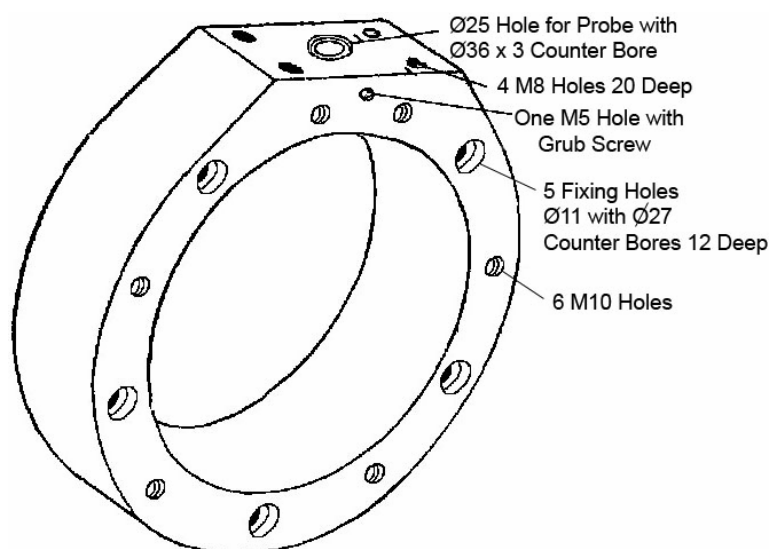

Figure 1: Original Design – Steel to Drawing B1-A0-9000385
1. If to the original design (see Figure 1), scrap.